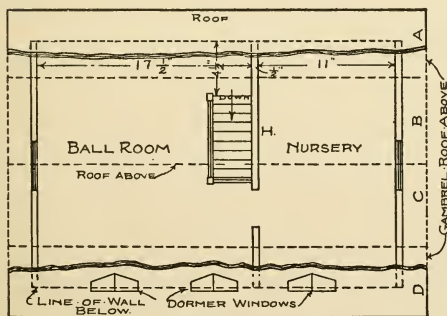

FIG. 67. THIRD FLOOR PLAN
**Lay the Third Floor** (Fig. 67), cutting a three by seven inch stair opening, and fastening the boards in place as you did those of the second floor.